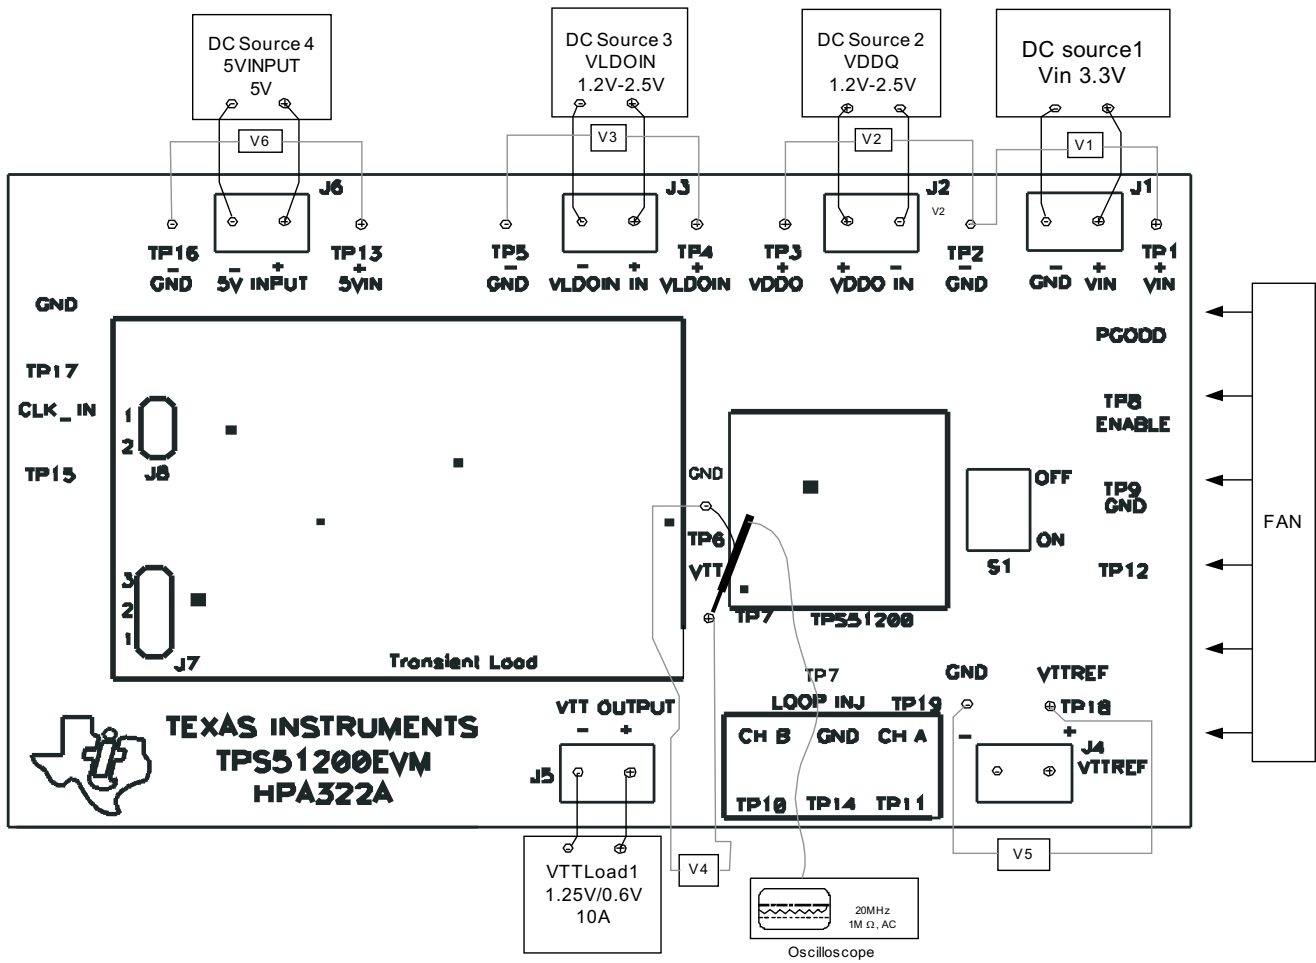

Figure 3. Recommended Test Setup
VIN	The input voltage source 1 should be a 0 V to 10 V variable DC source capable of supplying 1Adc. Connect Vin to J1 as shown in Figure 3 .
VDDQ	The input voltage source 2 should be a 0 V to 10 V variable DC source capable of supplying 1Adc. Connect VDDQ to J2 as shown in Figure 3 .
VLDOIN	The input voltage source 3 should be a 0 V to 10 V variable DC source capable of supplying 10Adc. Connect VLDOIN to J3 as shown in Figure 3 .
5VINPUT	The input voltage source 4 should be a 0-10V variable DC source capable of supplying 1Adc. Connect 5VINPUT to J6 as shown in Figure 3 .
Voltmeters (0V-10 V) are used to monitor the V_{IN} voltage (V1), VDDQ input voltage (V2), VLDOIN input voltage (V3), VTT output voltage (V4), VTTREF output voltage (V5), 5VIN input (V6) as shown in Figure 3
Load 1 is an electronic load set in constant current mode capable of sinking 0 A to 5 A of current. Load 1 needs to be connected to J5 as shown in Figure 3. Load 2 is recommended to use resistive load around 0.5 W. VTTREF only sink/source maximum 10 mA. Load 2 needs to be connected to J4 as shown in Figure 3.
- Prior to connecting the DC input source, limit the source current and then connect the DC source to EVM as shown in Figure 3
- Connect voltage meter (V1, V2, V3, V4, V5, V6) as shown in Figure 3.
- For operation with load, connect Load 1 and Load 2 to EVM as shown in Figure 3.
8. Use scope probe to monitor VTT load transient regulation. The scope probe should be put at TP7 (+) and TP6 (-) by setting to AC with 20 MHz bandwidth limiting. Use a vertical resolution of 20 mV per division and a horizontal resolution of 200 μ s per division. The measurement should ignore high frequency switch transition "spike". Refer to Figure 3 and Figure 9.